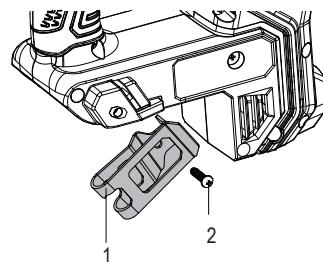

Fig.1
The belt clip (1) is intended to be used to temporarily hang the tool. It can be installed on either side of the tool for user convenience. Secure the belt clip (1) to the tool using the included screw (2)(Fig.1).